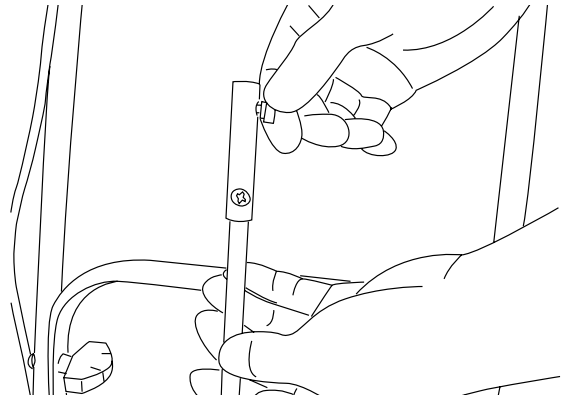

Figure 9
2. Loosen the screw on the lower chute crank by hand (Fig. 9).